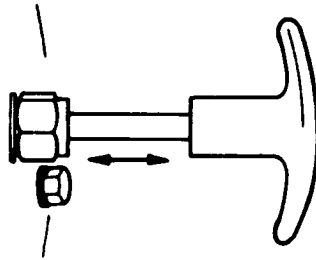

Figure 2-13 Winch/PTO control operation
- c. Depress the clutch pedal and select reverse gear, then pull out the winch/PTO control in the seat base (see Fig. 2-13) to engage the winch drive. Increase engine speed to approximately 1300 rpm then slowly release the clutch pedal to begin winding out the winch rope.
- c. Depress the clutch pedal and select a low forward gear, then pull out the winch/PTO control in the seat base (see Fig. 2-13) to engage the winch drive. Increase engine speed to approximately 1300 rpm then slowly release the clutch pedal to begin winding in the winch rope.